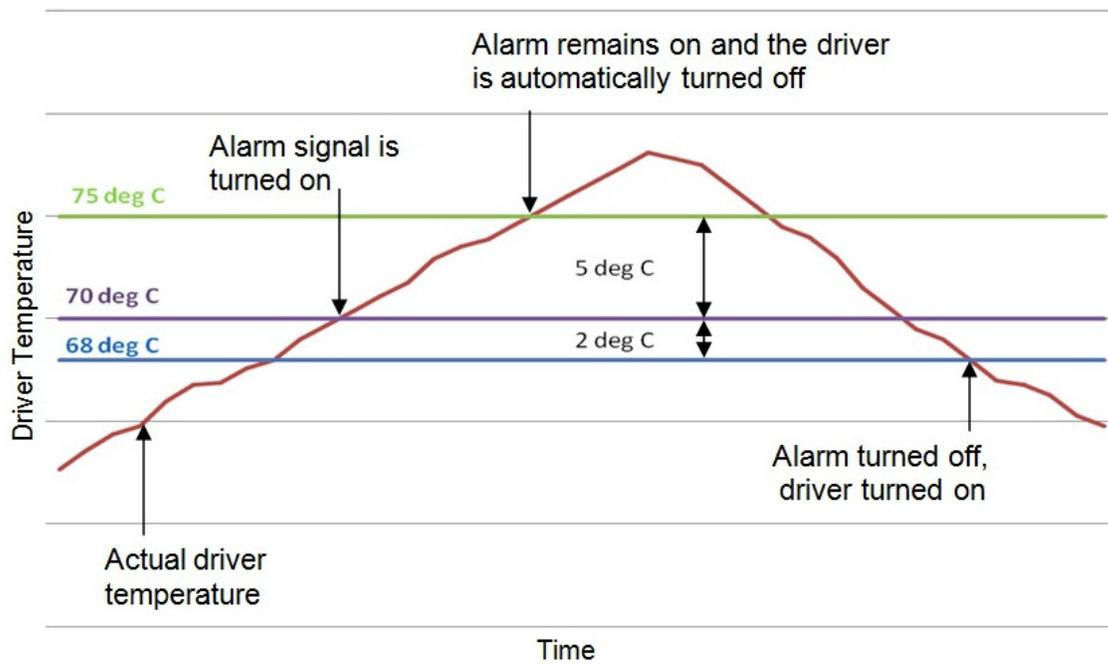

Figure 6.0
For details on the over temperature alarm, see Figure 6.0.
- 7) **Over Temperature Shutdown:** Determines whether or not the DMX-A2-DRV disables when the temperature rises above a specified threshold. See Figure 6.0 for details.